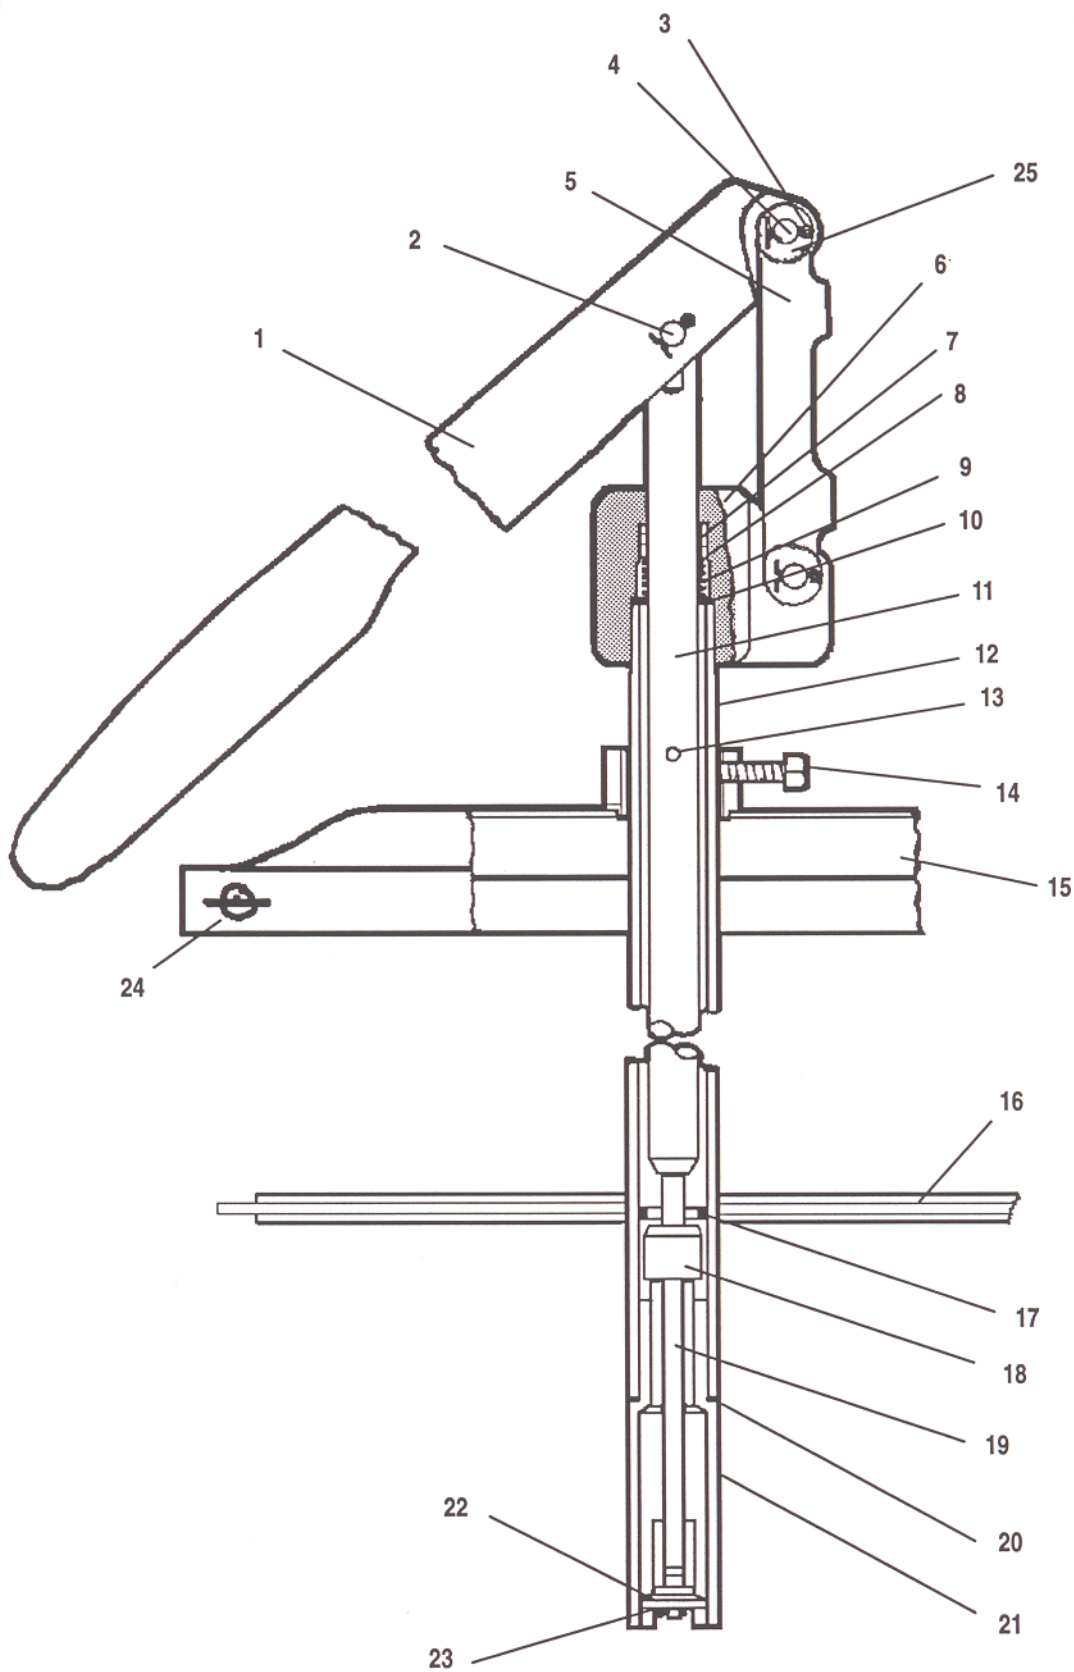

FIGURE 2
1. Install (1) Hand Lever and (5) toggle as shown in Figure 2.
2. Slip (15) cover over the (21) primer tube and secure cover to pump.
3. Assemble the (16) follower plate on the (21) primer tube.
4. Set pump on pail with follower under the drum cover. Adjust cover to proper height and secure with the (14) set screw, Then secure with the three (24) thumb screws.